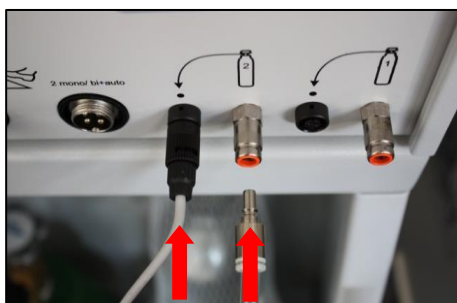

Figure 4
- gas pressure measure line 2 (12)
- gas connection 2 (13)
- gas pressure measure line 1 (14)
- gas connection 1 (15)
- Plug in the mechanical style pressure switch (3) leaving cable in gas measure line 1 or 2 (14 or 12).
- Plug in the outlet connection (5) leaving tube with its adapter at the end to gas connection 1 or 2 (15 or 13). The lock engages by itself (Figure 4 and 5).